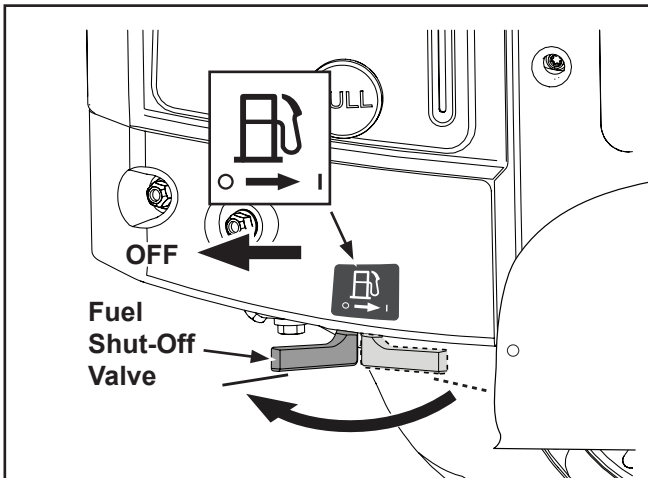

Figure 13. OFF Position of Fuel Shut-Off Valve.
3. Turn the fuel shut-off valve to the **OFF** position. See Figure 13.
2. Turn the fuel shut-off valve to the OFF position. See Figure 13.